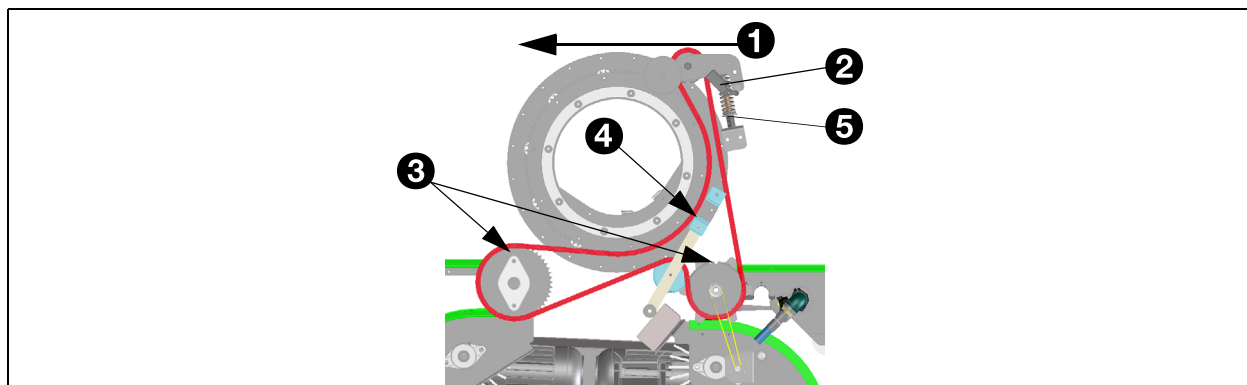
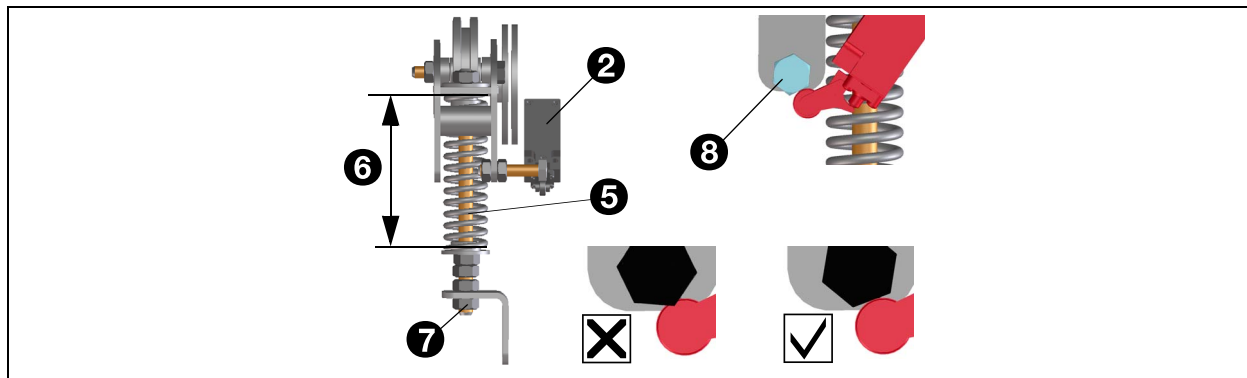
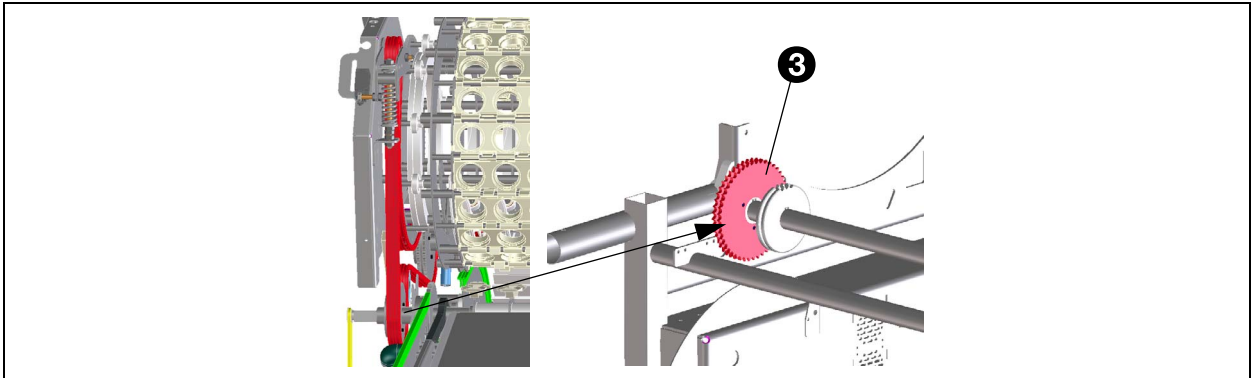

Fig. 39 - Drive chain MultiDrum™
Fig. 40 - Safeguards
Fig. 41 - Disconnecting chain-wheels
To prevent damage to the MultiDrum™ as a result of a crash, a protector is mounted on the MultiDrum™. The tension of the drive chains is checked by two microswitches. The microswitches (2) are mounted on both sides of the MultiDrum™. See fig. 39. The microswitches (2) are included in the emergency-stop circuit. See fig. 39 and fig. 40.
1. Loosen the bolts of the two chain-wheels (3). See fig. 39 and fig. 41.
2. Adjust the length of the spring (6): See fig. 40.
3. Tighten the bolts of the two chain-wheels (3). See fig. 41
4. Tension the chain (4) using the chain tensioner (5) until the safeguard is pulled to the microswitch. See fig. 39 and fig. 40.
6. Use the nuts (7) to adjust the safeguard so that bolt (8) (mounted on the arm) just touches the microswitch's roller. See fig. 40.
**Check whether the bolt (8) touches the flat part of the microswitch's roller.**